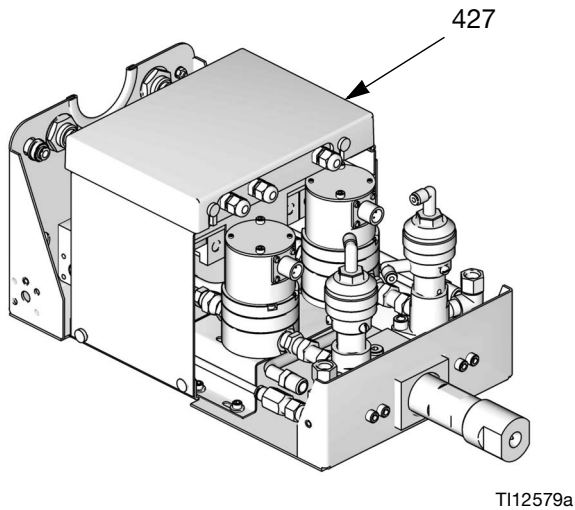

FIG. 27: Remove Control Board Cover
2. Remove the control board cover (427). FIG. 27.